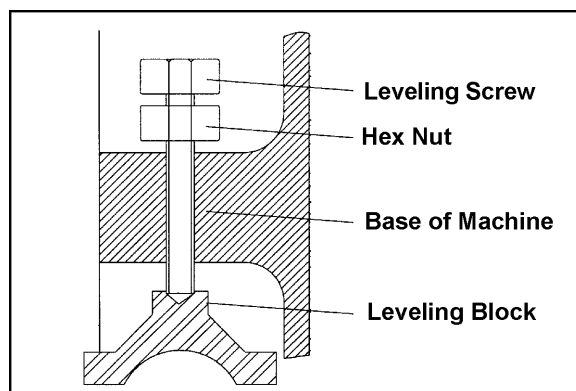

Figure 2
8. Thread the leveling screws into the base of the machine. Place the leveling blocks underneath the screws, and tighten the hex nut. See Figure 2. NOTE: You will adjust these to level the machine after the table has been installed.
3. Adjust the screws over the leveling blocks (Figure 2) until the machine is level. Check periodically for accuracy.